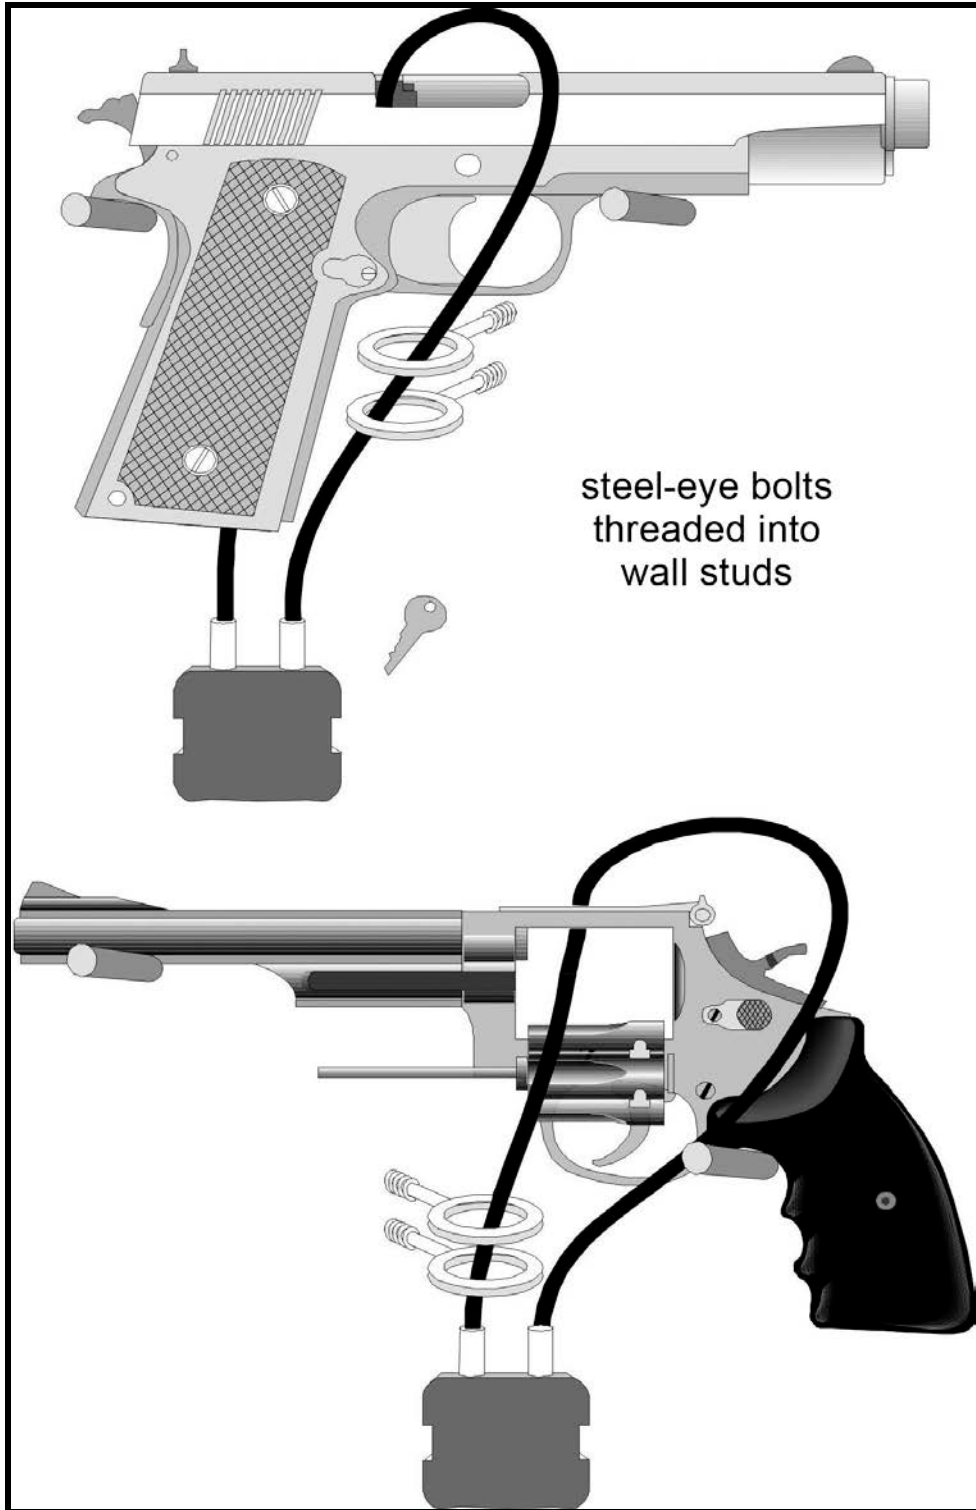

Figure 136. Display
- Securely attached to a non-portable structure that cannot be easily removed (Figure 136); **and**